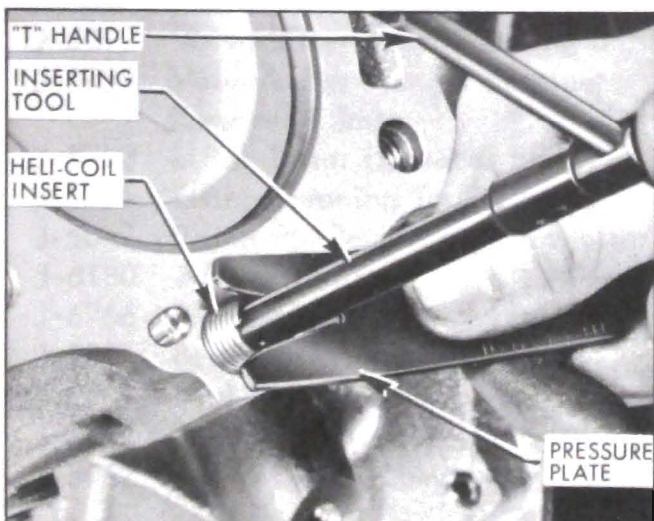

Figure 2-63—Installing Insert
3. Install the insert. See Figure 2-63.
(b) Place the insert, still mounted on the tool, squarely over the tapped hole. With the pressure plate provided in the kit, press the insert firmly against the mouth of the hole as illustrated in Figure 2-63. Do not apply downward pressure on the inserting tool.